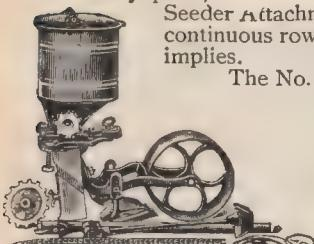
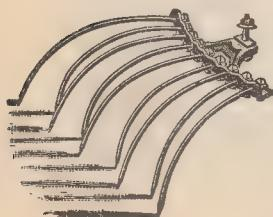

Fig. 133
Fig. 84. Price,
**No. 4 "IRON AGE" Drill Seeder Attachment.** Price, as shown in Fig. 133 with all necessary parts.
In designing this tool we have kept in mind the inter-changing of parts, and we are pleased to state the following attachments may be purchased with this tool or added any time in the future: No. 6 "IRON AGE" Hill and Drill Seeder Attachment, Fig. 134, page 14; No. 4 "IRON AGE" Drill Seeder Attachment, Fig. 133, page 14; Double Mold-board Plow Attachment, Fig. 170, page 14; Onion Set Gatherer, Fig. 33, page 14; Single Weeder Attachment, Fig. 84, page 18. Furthermore, any one wishing to purchase cultivating tools, such as shown in connection with the No. 20 Wheel Hoe, Fig. 135, page 17, may do so—the frames of the No. 25 and No. 20 being identical.
**The No. 4 "IRON AGE" Drill Seeder Attachment.** Price with all necessary parts, For cut of this attachment see Fig. 133, page 14. It is very similar to the No. 6 "IRON AGE" Hill and Drill Seeder Attachment, but instead of sowing the seed in both hills and drills it sows them in drills or continuous rows only. When this attachment is applied to the No. 20 Wheel Hoe the combination makes the same tool as the No. 17 "IRON AGE" Combined Single Wheel Hoe and Drill Seeder.
**The Single Weeder Attachment.** Price, In Fig. 84, page 18, we show this attachment, and what is there said, and also said in reference to the work performed by the Double Weeder Attachment, Fig. 81, page 15, largely applies to this.
**Fig. 84. Weeder Attachment for Nos. 9, 10, 20 and 21 Single Wheel Hoes.** By the application of this to the rear of the Single Wheel Hoe the same admirable work is accomplished, of fining the soil and destroying the countless small weeds, just pushing above the ground, as by the similar attachment to the Double Wheel Hoe. The Weeder can be reduced in width to pass through narrow rows by removal of a portion of the teeth.